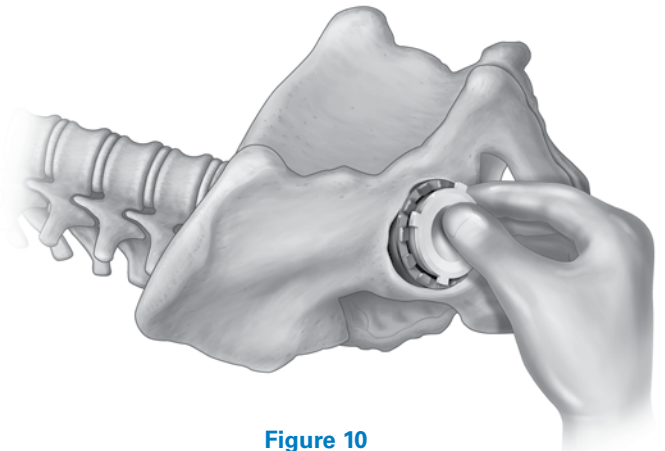

Figure 10
Step 2: Select the appropriately sized liner in the desired configuration and gently insert by hand, taking care to ensure that the tabs of the liner enter the slots between the crowns on the rim of the Acetabular Shell (*Figure 10*).